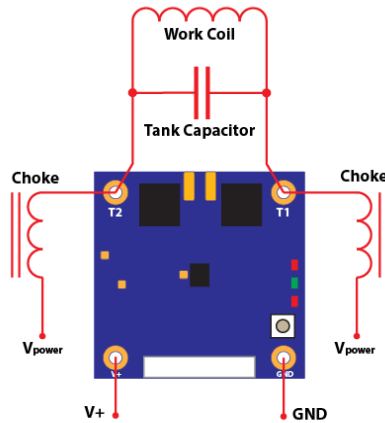

Figure 1: Connection diagram for standard coils
This procedure describes an example low power setup using the standard two-choke connection shown in Figure 1. It assumes a single 15 V supply and operation using the onboard Start/Stop button or suitable remote connection. Read Important integration and operating requirements before assembly. If selecting custom components or operating outside the typical starting values below, also read System Design and Component Selection.
4. Connect one power choke between Vpower and T1 and the second between Vpower and T2, as shown in Figure 1. The chokes may be soldered directly to the positions provided on the DT-200.